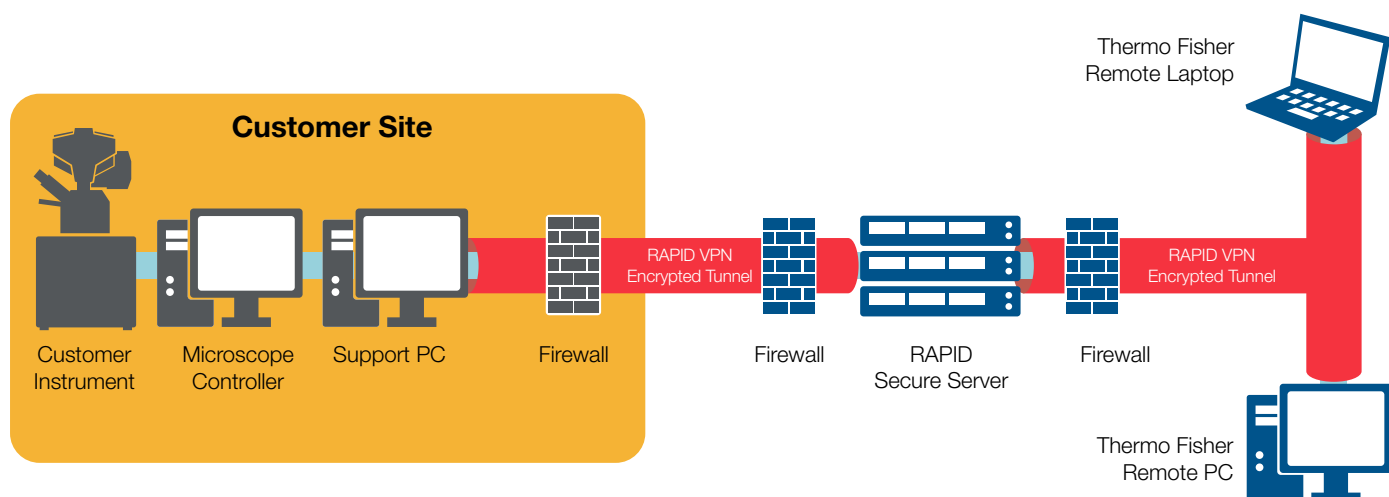

Figure 1. RAPID infrastructure.
Our network configuration makes it easy to connect with Thermo Fisher through the local corporate or institutional network (see **Figure 1**). RAPID is divided into two layers:
- The connectivity layer (red tube in **Figure 1**) for connection between instrument and engineer (by infrastructure-related security measures like demilitarized zones—DMZ and hardening). All RAPID support sessions are set up using OpenVPN, a secure communication protocol that uses TLS encryption to prevent unauthorized connections and provide confidentiality between the Customer Instrument and RAPID Secure Server.
- The application layer (blue tube in **Figure 1**) for taking over the instrument screen (by requesting user credentials to ensure access control to all RAPID support sessions). The RAPID Connection Wizard, with integrated TeamViewer screen sharing application, is part of the application layer.